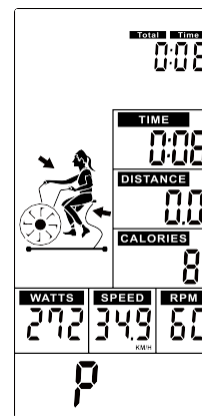

Figure 17
- ① In Standby mode, press START to start workout quickly, the buzzer sound 1 second. TOTAL TIME/ TIME/ DISTANCE/ CALORIES/ WATTS/ SPEED/ RPM start to count up (Figure 17).
- ② Whenever there is Pulse signal input,  will light up and  symbol will flash and display pulse value (Figure 18). Without pulse input, it will display "P" (Figure 17).
- ③ No signal input for 30s, buzzer sounds 1 short beep and enter to Wake-up mode. Press any to wake up the console.
- ④ Press START key once to pause training, Buzzer will sound for 0.5s in every 30s. All values are displaying on LCD and flashing in every 4s. If continue to stop training for 5 minutes, buzzer sounds 2s and enter to Wake-up mode. Press START to resume workout.